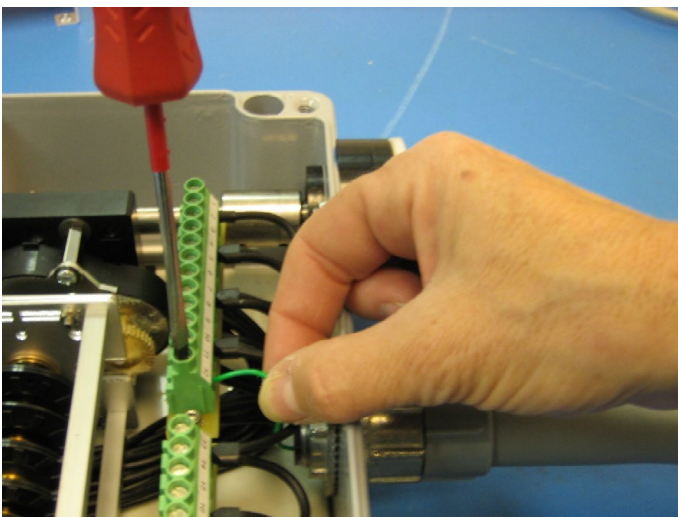

Figure 7. Wiring to the Phoenix COMBICON Terminal Blocks
5. Strip wire ends approximately 5-6mm (0,22") length. Using a slotted screwdriver, loosen terminal contacts of Phoenix COMBICON wiring block(s), insert wire end and close contact by tightening screw (see **Figure 7**).